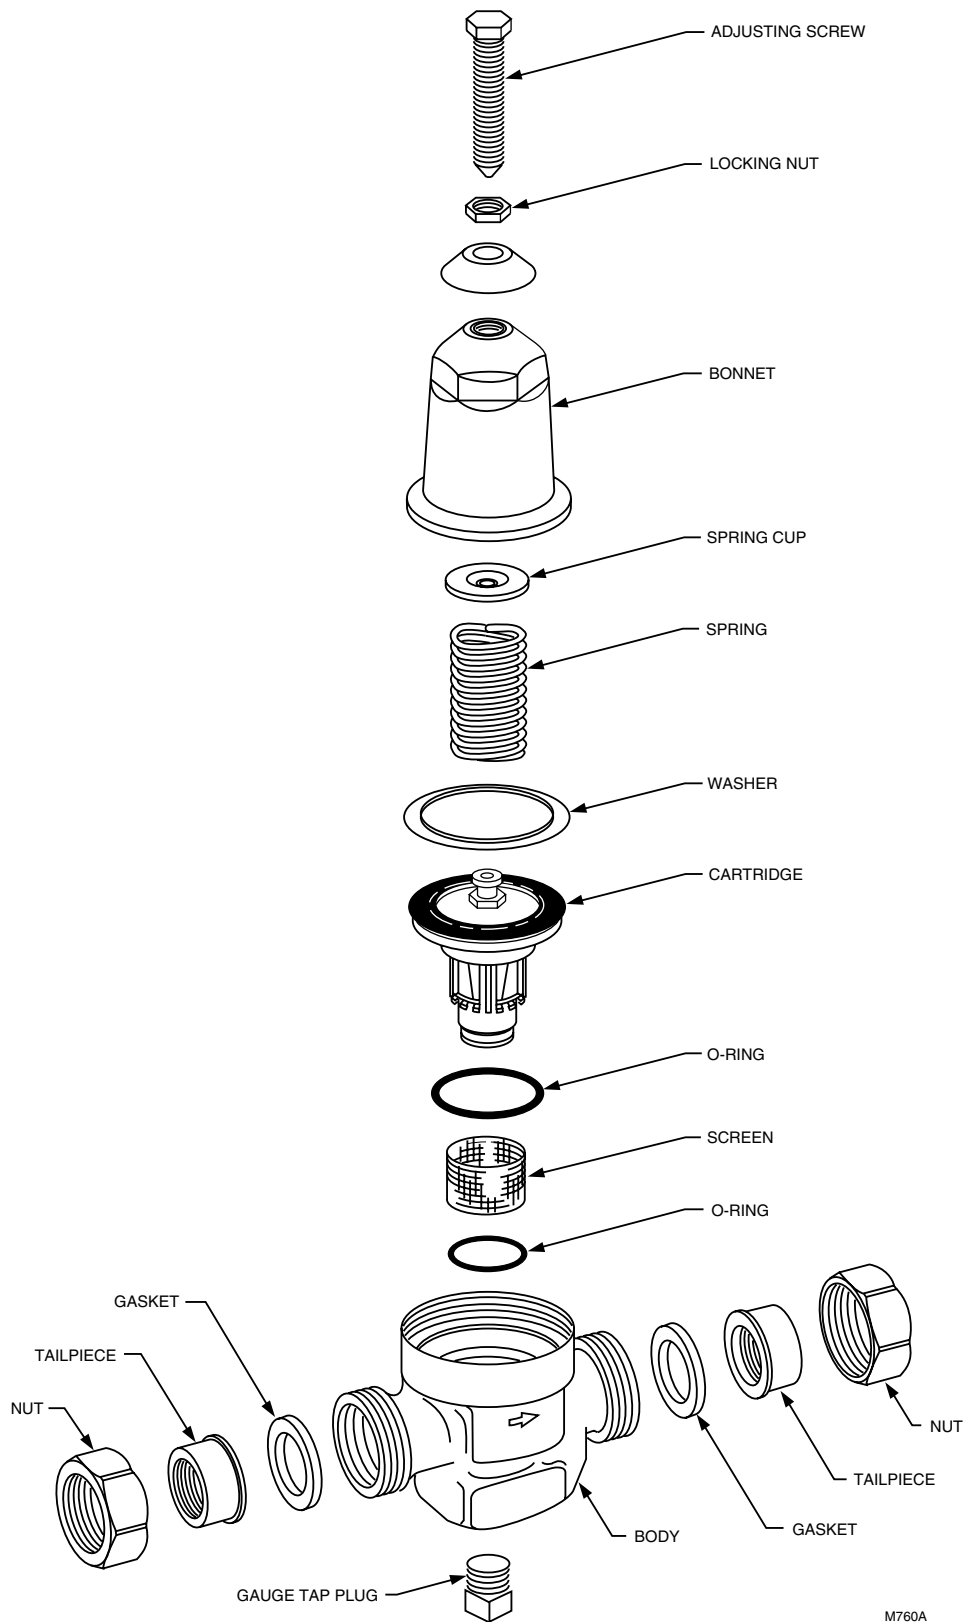

Fig. 4. D05 exploded view.
- 10 Replace the spring, spring cup and bonnet (see Fig. 4).